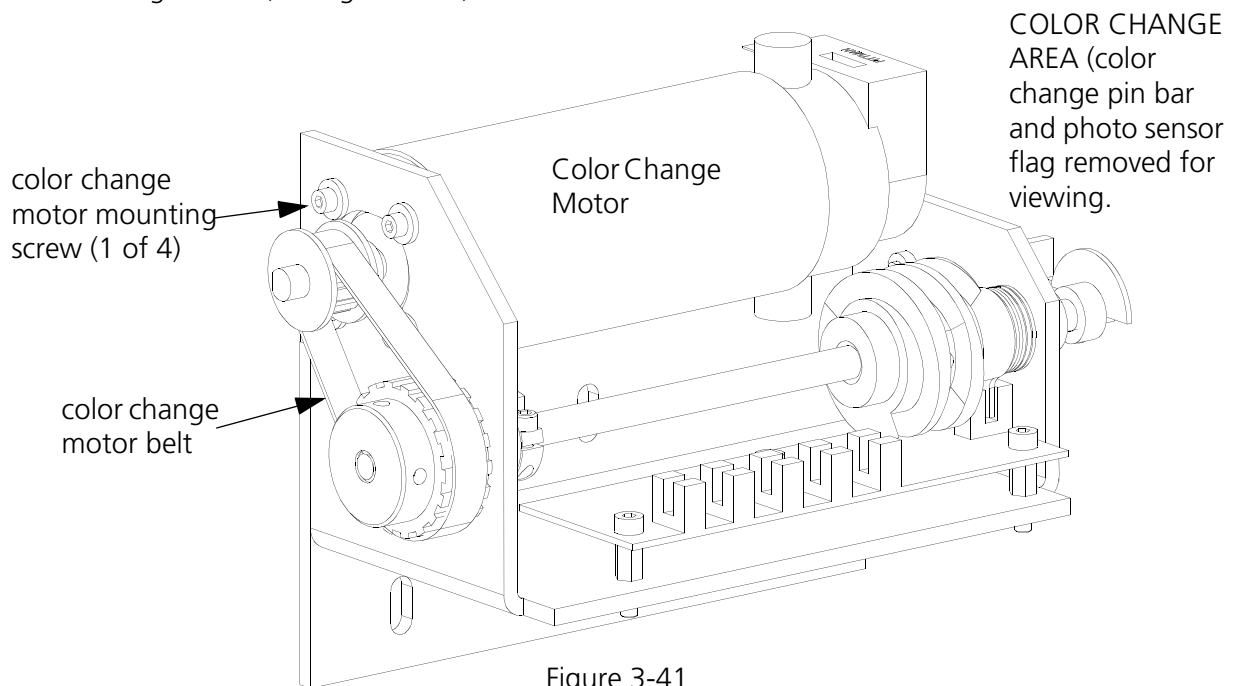

Figure 3-41
3. Locate the color change motor and loosen, but do not remove the color change motor mounting screws (see Figure 3-41).